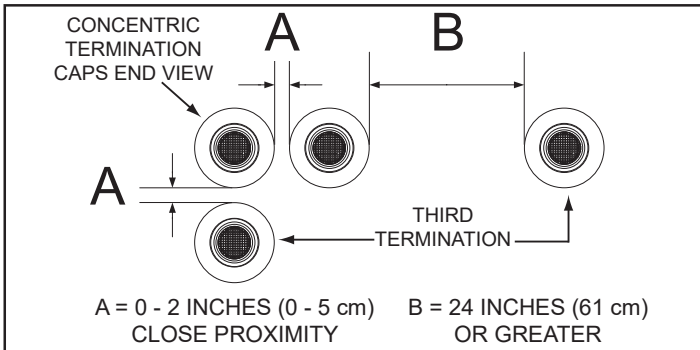

Figure 46. Three Concentric Terminations
1. When installing three concentric terminations through a roof or through a sidewall, the third termination can be installed in close proximity as indicated by dimension A in *Figure 46*.
2. If close-proximity installation of the third termination is not possible, the third termination can be installed as indicated by dimension B in *Figure 46*.
on clearances. See *Figure 46* (page 43) when installing three concentric terminations.